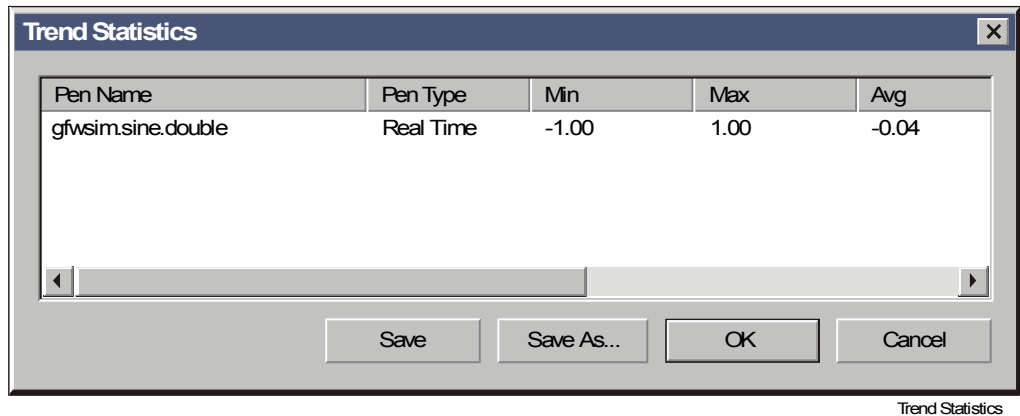

Figure 14-20: Trend Statistics Dialog Box
2. Click on the Statistics button . The Trend Statistics dialog box appears (Figure 14-20) and lists current trend statistics.